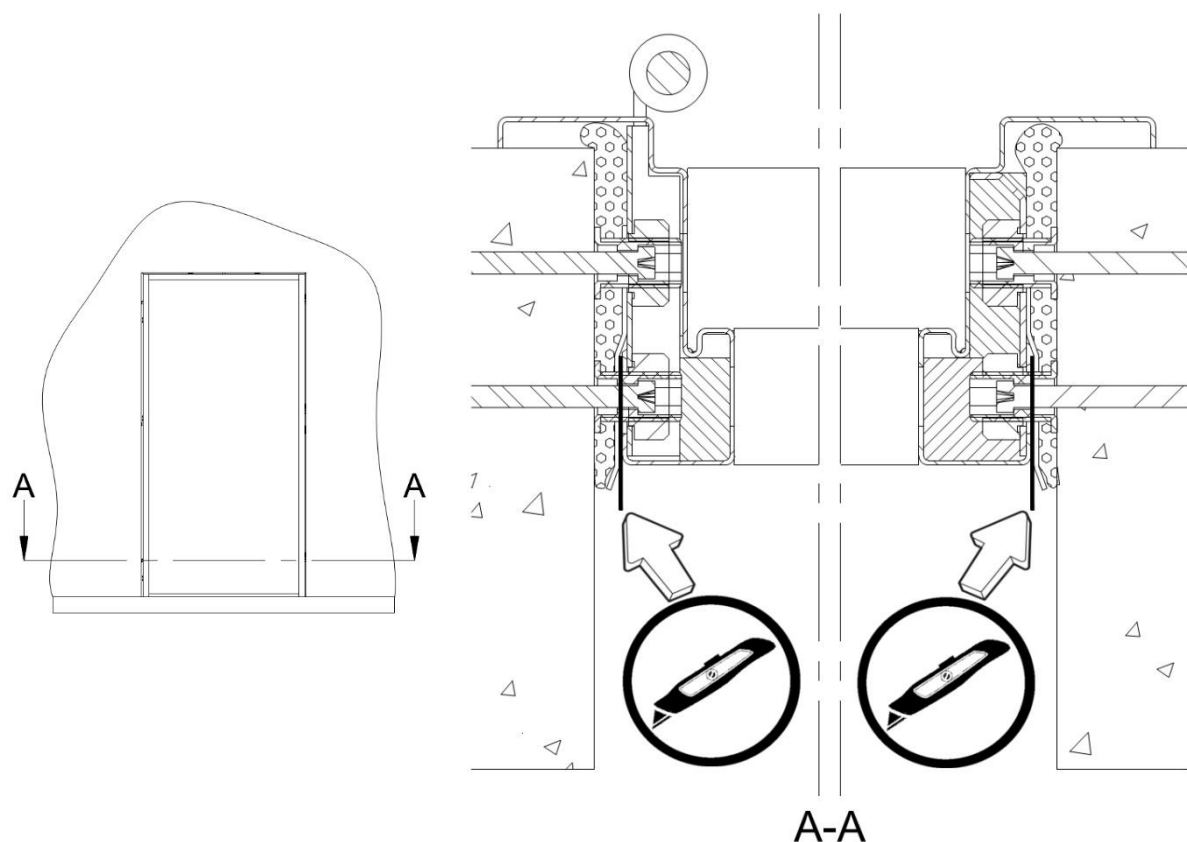

Figure 2.1 Cutting a groove along the jamb perimeter.
3. If the door jamb was installed using expanding foam, cut a groove along the jamb perimeter to make room for counter frame installation. The groove has to be approximately 35 mm deep and 1 to 2 mm wide. Make sure not to damage the paint on the door jamb. If the jamb was installed using mineral wool, ensure there is enough room to install the counter frame. If necessary cut a groove along the jamb perimeter. (Figure 2.1)